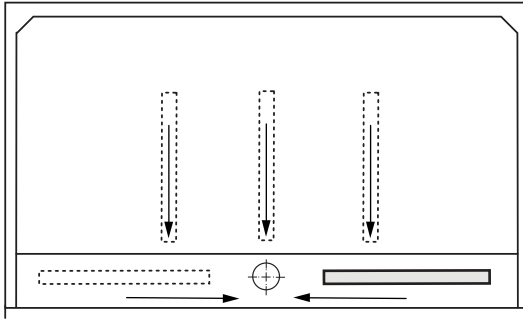

Figure 7
- 3** Place a level as shown in Figure 7 and verify that there is slope towards the drain.